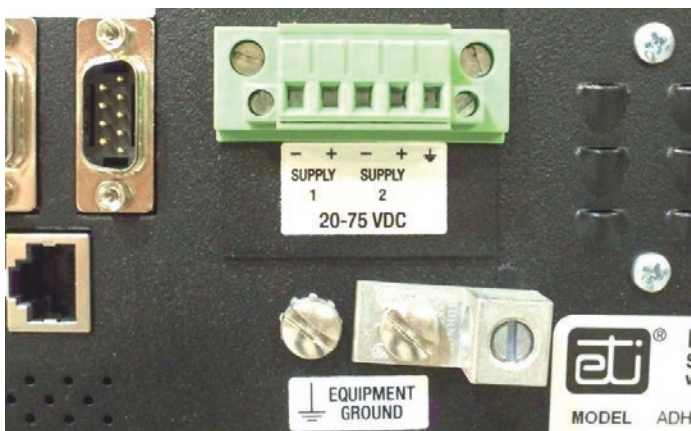

FIGURE 7. ADH NETCOM DC Rear Panel Detail.
6. For AC units, after connecting the ground wire, make sure that the unit power switch is in the OFF or "O" position, then plug in the power cable to a surge protecting electrical outlet power strip. Leave the power switch in the OFF position. On DC units, there is no power switch so the unit is functional as soon as the DC power cable is connected. Refer to Figure 7.